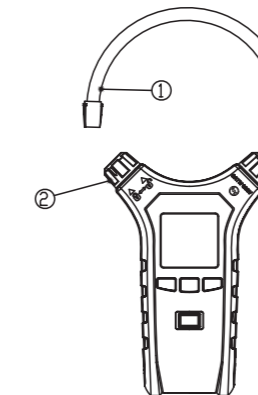

Figure 3
2. Unlock the clamp according to figure 3